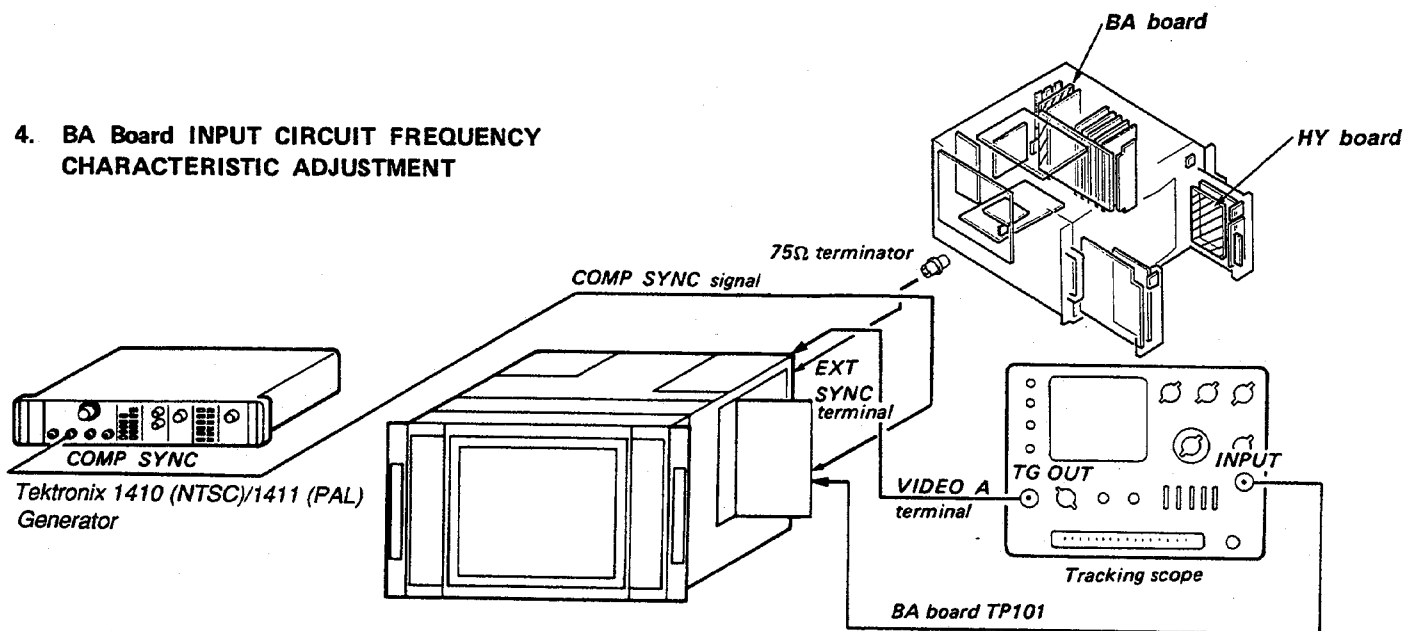
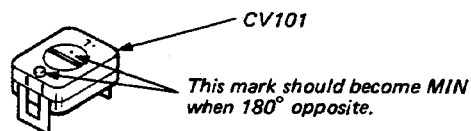

Fig. 4-1
Fig. 4-2
- Complete the connection as shown in Fig 4-1.
- CONTRAST control (FRONT PANEL (R)) Minimum
- BRIGHTNESS control (FRONT PANEL (R)) Minimum
- Adjust CV101 of the BA board so that minimum as shown in Fig. 4-2.